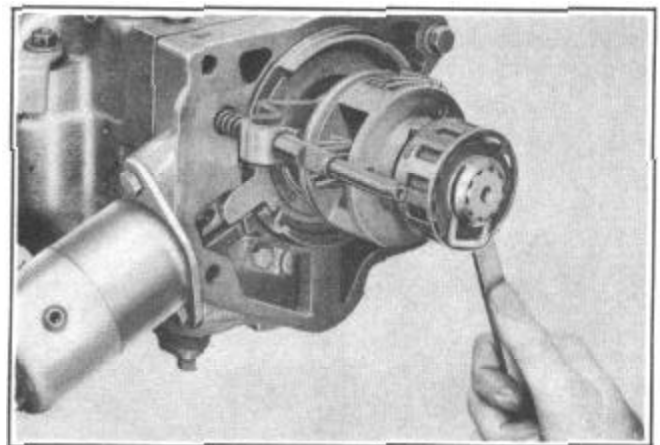

FIGURE 27
7. Install the pinion cage and the clutch cam assembly on the main shaft and secure the assembly in place with the retaining clip. Figure 27.